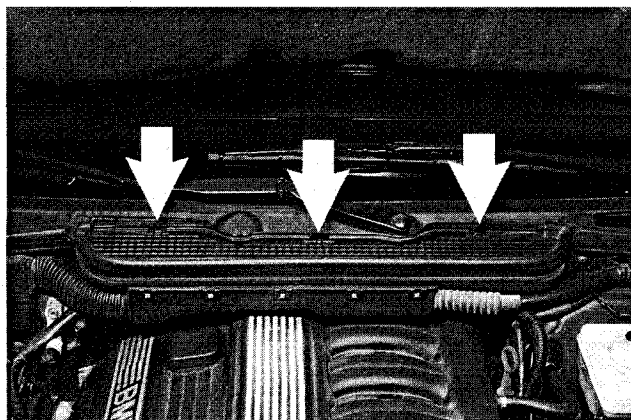

Fig. 5. Detach grill clips (arrows) and pull upward.
4. Unclip engine bulkhead plenum grille at base of windshield and pull it away from rubber gasket. See Fig. 5.